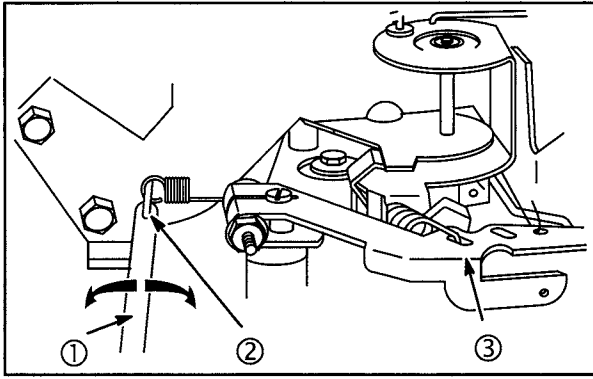

Fig. 32
Governor spring is installed in #1 hole (3) in governor lever, Fig. 32.